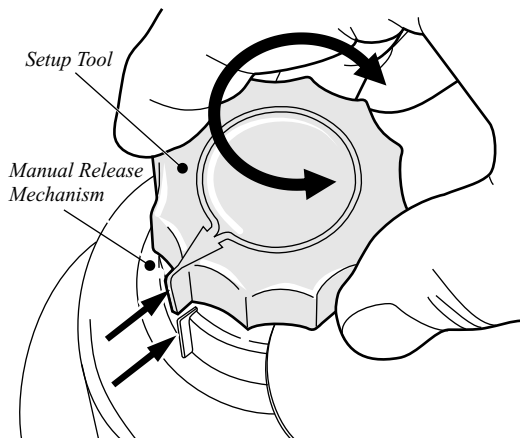

Figure 10 Origin Setup
- Use the origin tool and line up marks as in figure 10. (**IM** page 28)